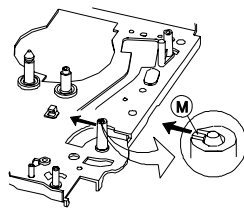

Fig. 16
- On the bottom of the drive mechanism, disengage clamp ① (Fig. 16) and remove the brake band with the tension arm (Pos. A2500).